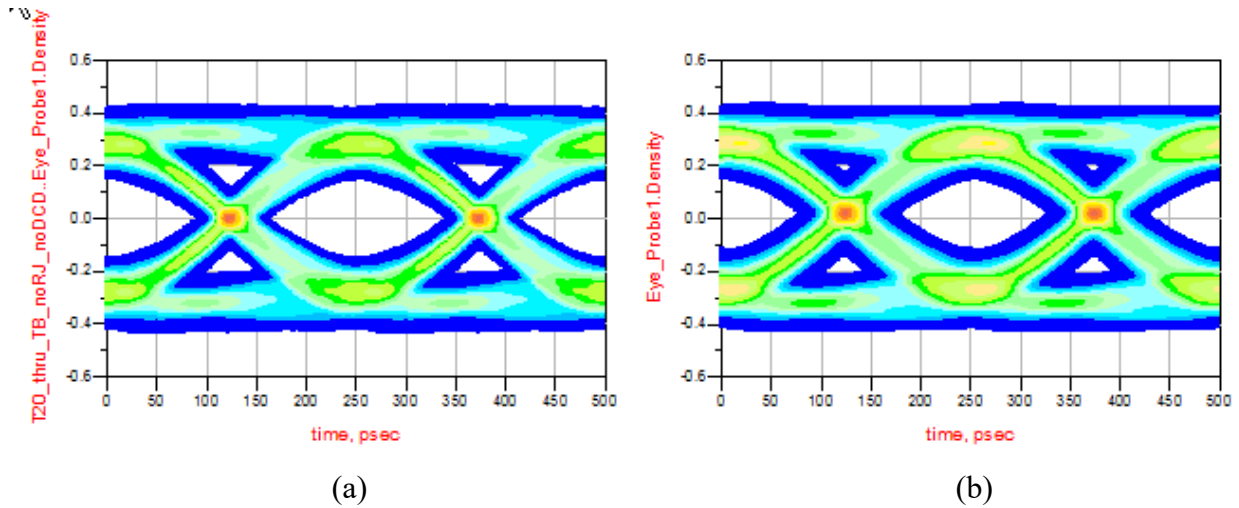
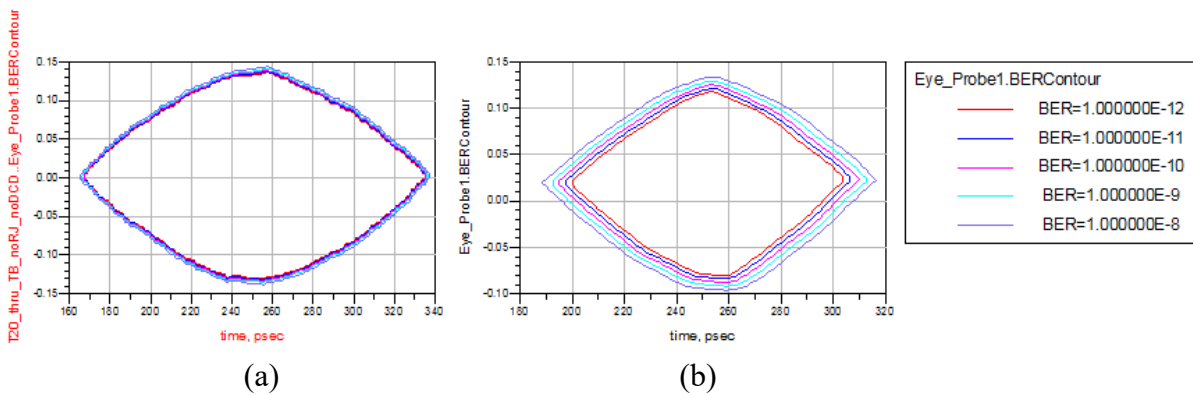
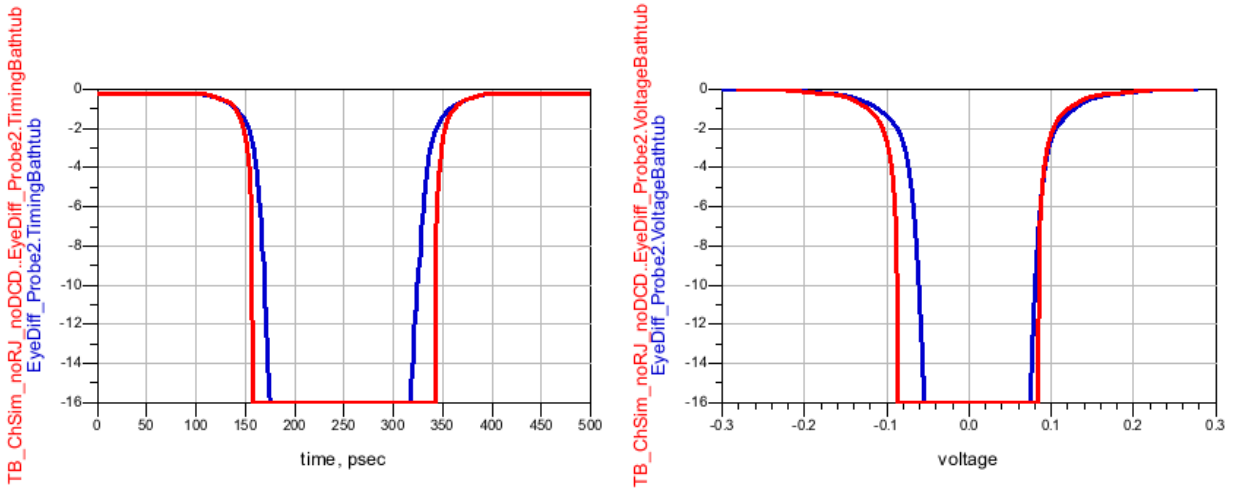

Figure 22 Received Data Eye Diagram after the T20 BP Channel (a) w/o RJ and DCD, and (b) w/ RJ and DCD
Figure 23 BER Contours from the Statistical Simulations (a) w/o RJ and DCD, and (b) w/ RJ and DCD
Figure 24 BER Bathtub Curves from ADS Statistical Simulation in (a) Time, and (b) Voltage
As shown in Figure 22, due to the channel ISI, RJ and DCD from TX, reduced amplitude and timing margins are observed at the front-end of the RX. Applying 5% (UI) DCD and 1% (Sigma UI) RJ, cause worse ISI as expected. Figure 23 shows the BER contour at different BER levels defined by the worst case eye. Note, including RJ and DCD is what spreads and shrinks eye height and eye width for various target BER. Time and voltage BER bathtub curves with and without RJ and DCD are shown in Figure 24. Please note that BER contour and time/voltage bathtub measurements may not be enabled by default. In order to include those results you have to add them in Measurements tab in each Eye\_Probe block properties.